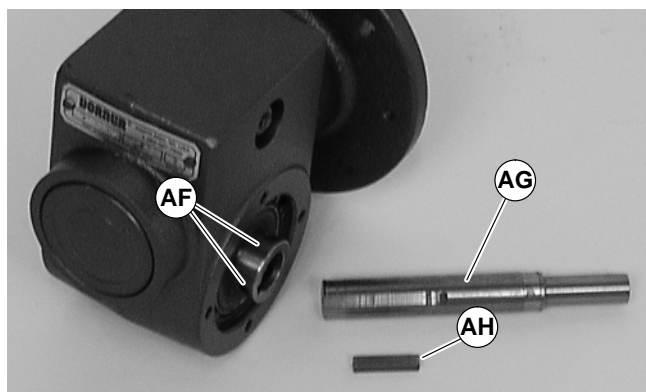

Figure 16
6. Remove two (2) screws (AC) and detach output shaft cover (AD).
7. Remove gear reducer output shaft key (AE).
8. Loosen six (6) set screws (AF of Figure 16). Remove drive shaft (AG) and key (AH).
10. Replace the original shaft (AG of Figure 16) and key (AH) into new gear reducer. Tighten set screws (AF) to 3 Nm.